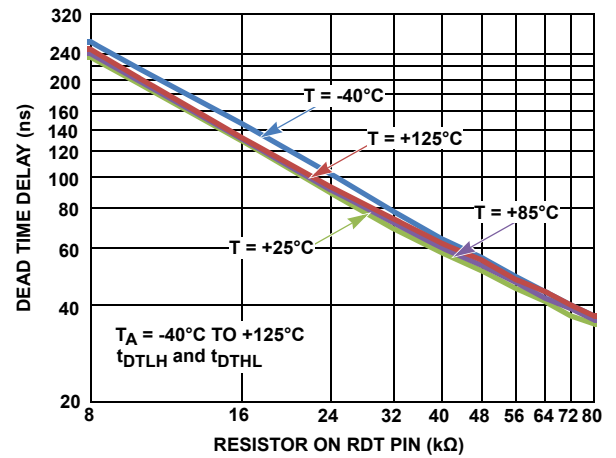

FIGURE 9. DEAD TIME DELAY vs RDT RESISTOR
1. The dead time of the HO and LO signal is set to 35ns with an 80kΩ resistor from the RDT pin to GND. To change the dead time, replace the resistor at R20 with the value corresponding to the desired dead time. See Figure 9.
The ISL78420 features a dead time control circuit for programming the delay between the falling edge of HO to rising edge of LO and between the falling edge of LO to rising edge of HO. A single resistor from the RDT pin to GND adjusts the dead time from 35ns (80kΩ) to 220ns (8kΩ). The ISL78420EVAL1Z contains a 80kΩ resistor at R20 which sets the dead time to 35ns. Refer to Figure 9 for selecting a resistor value for the desired dead time.